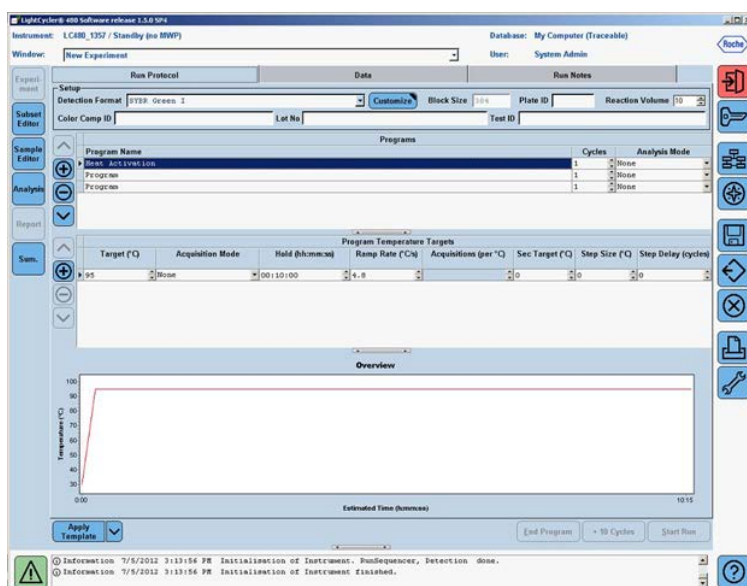

Figure 3. Setup of the first program — heat activation.
7. Click to change the Program name of the first program to “Heat Activation.” Leave the number of cycles at “1” and leave the Analysis Mode as “None.” In the Program Temperature Targets section, enter the values for the following parameters (See Figure 3):